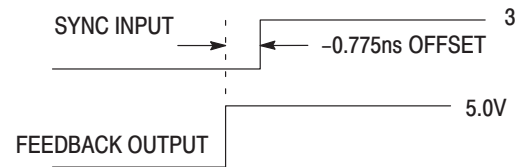

Figure 2. Depiction of the Fixed SYNC to Feedback Offset (t_{PD}) Which is Present When a 1MΩ Resistor is Tied to V_{CC} or Ground
- A $1M\Omega$ resistor tied to either Analog V_{CC} or Analog GND as shown in Figure 2 is required to ensure no jitter is present on the MC88915T outputs. This technique causes a phase offset between the SYNC input and the output connected to the FEEDBACK input, measured at the input pins. The t_{PD} spec describes how this offset varies with process, temperature, and voltage. The specs were arrived at by